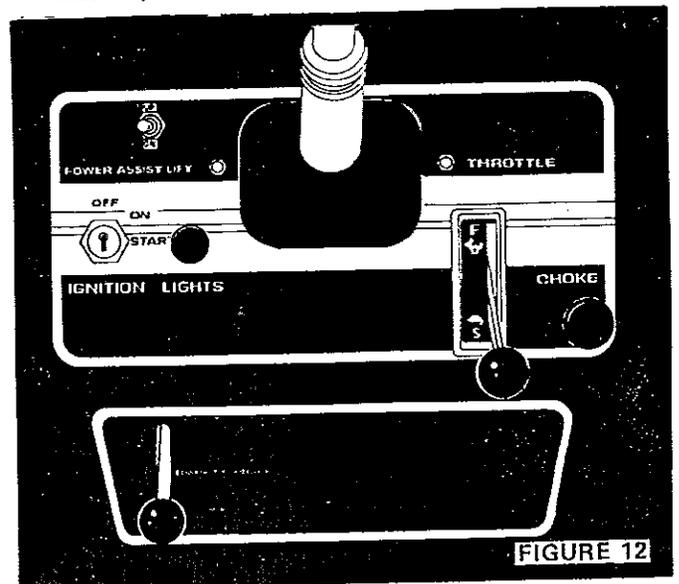

FIGURE 12
4. Pull Choke out (Fig. 12).
5. Move Throttle Control Lever to middle position (Fig. 12).
6. Turn Ignition Key to "START" position until Engine starts (Fig. 12). Release key into "ON" position.
NOTE: The Power Assist Lift Switch (Fig. 12) raises or lowers rear mounted attachments when used with an Electric Three Point Hitch (optional equipment).